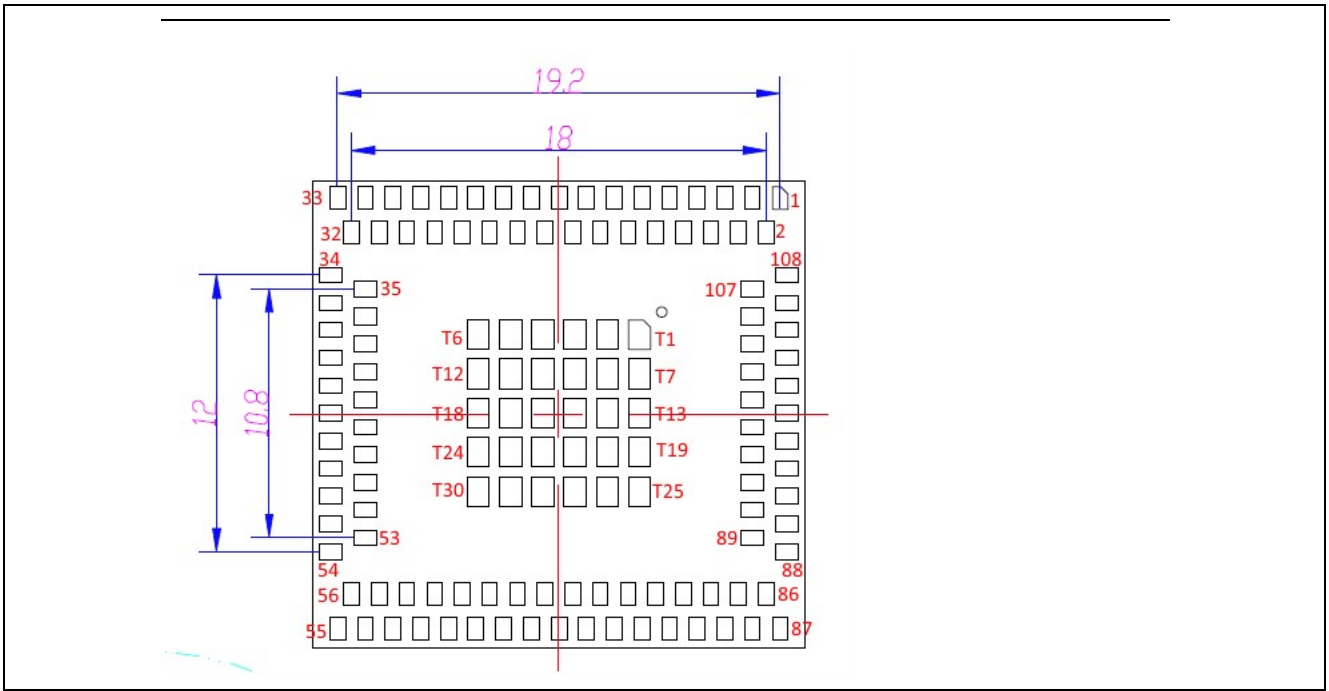
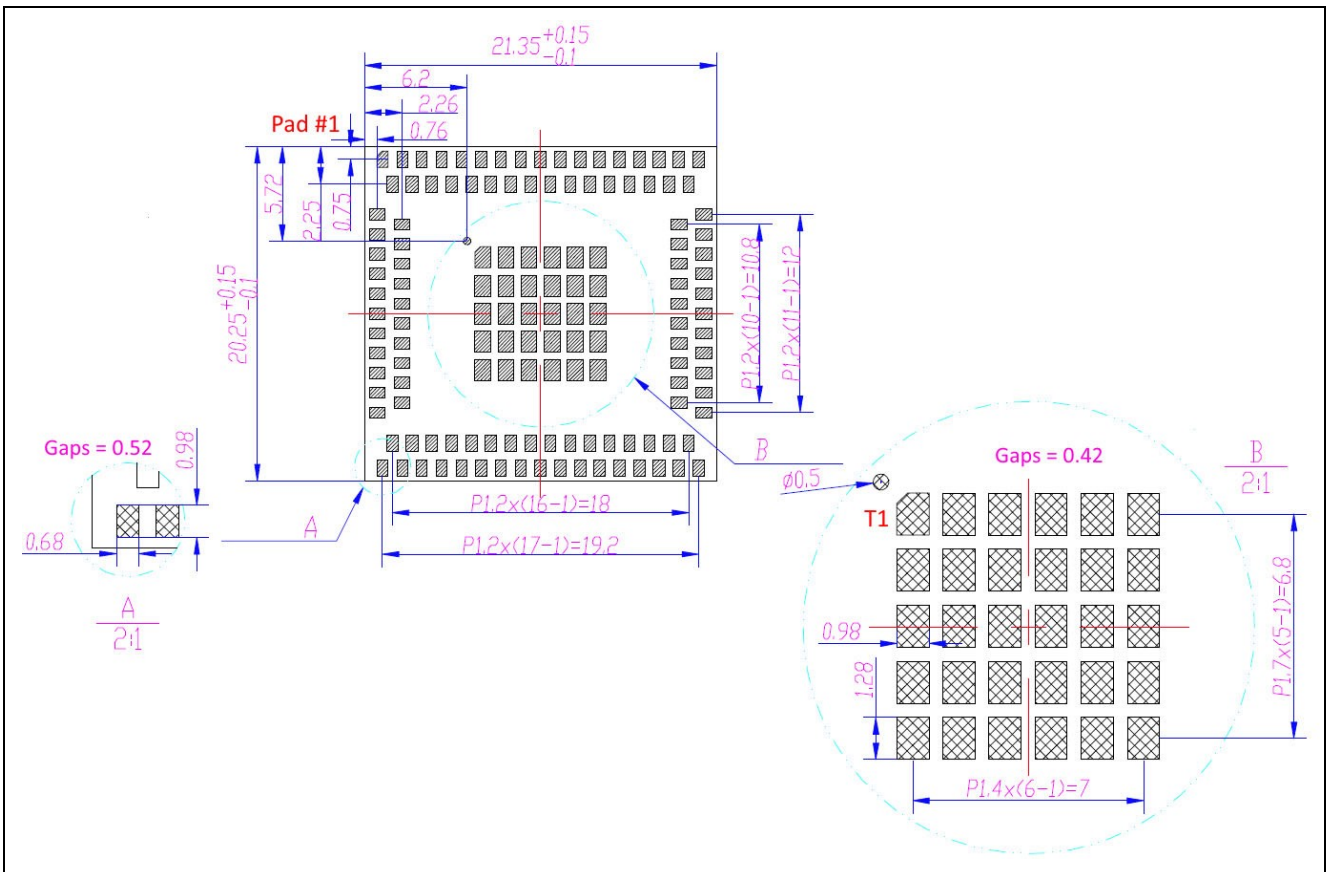

Figure 5. Module Bottom View, Dimensions and Pads Numbering (Module View)
Figure 6. Module Detailed Bottom View and Dimensions (PCB View)
**Note:** Figure 5 is a view of the pads seen on the module, and Figure 6 represents the footprint of the module on the PCB. Pad #1 is located on the top right of the module in Figure 5 and will be soldered on the top left area of the PCB footprint on Figure 6.